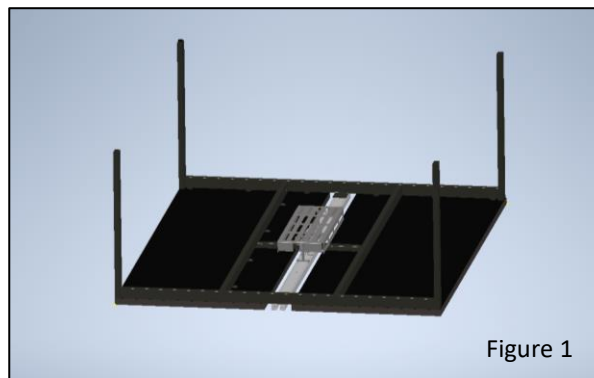

Figure 1
3. Position and secure assembled framing upside down on surfaces so that it is flush on all sides using #10 x 7/8" screws (Figure 1)